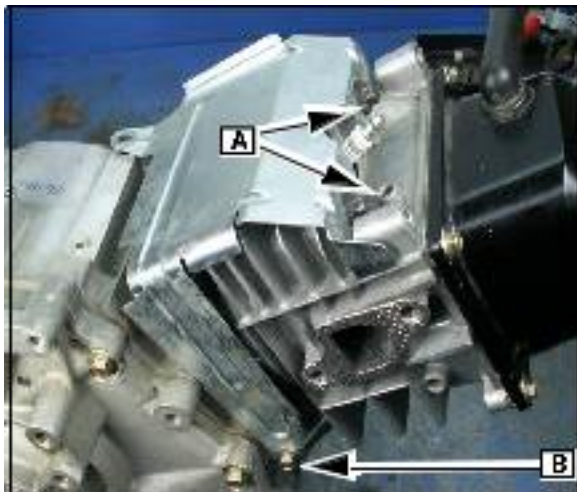

Fig. 29
Install the cylinder baffle using the upper head bolts (A) and one lower mounting screw (B) Fig. 29). Make sure to torque head bolts to listed values. **See SECTION 14- ENGINE SPECIFICATIONS.**